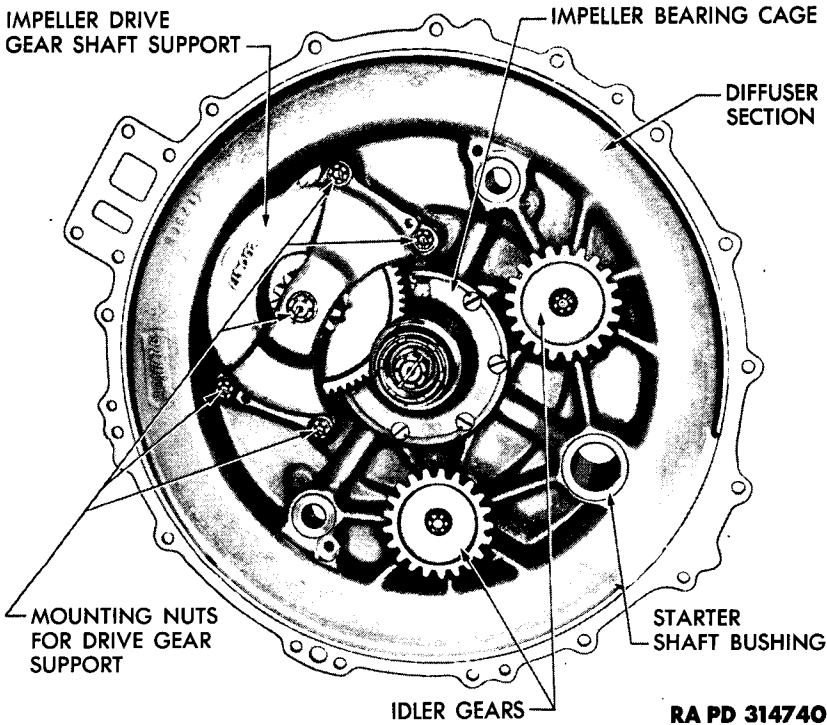
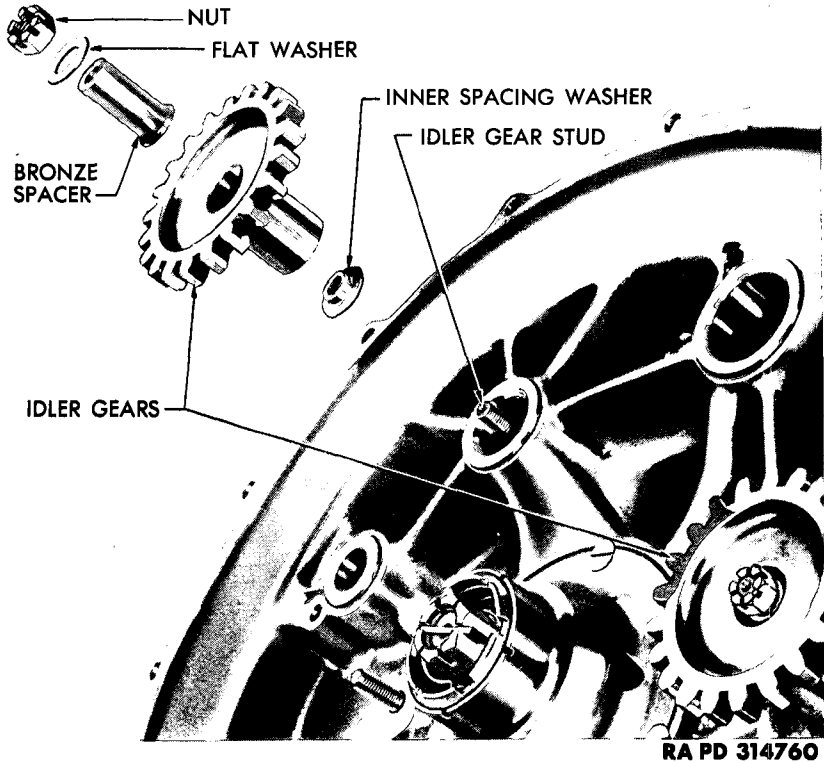

Figure 143 – Diffuser Section – Front Side
Figure 144 – Idler Gear Assembly – Disassembled
a. **Remove Idler Gears.** Place diffuser section in fixture on bench with impeller side down (fig. 143). Remove cotter pins from retaining nuts securing idler gears to shaft. Remove in order, nuts, flat washers, long bronze spacer, idler gears, and inner spacing washers (fig. 144).
h. Idler Gear Assembly (fig. 144). Inspect idler gear by magnaflux method for broken, cracked, or worn teeth. Inspect thrust washers for scores, burs, roughness, or wear. Replace any unserviceable parts.